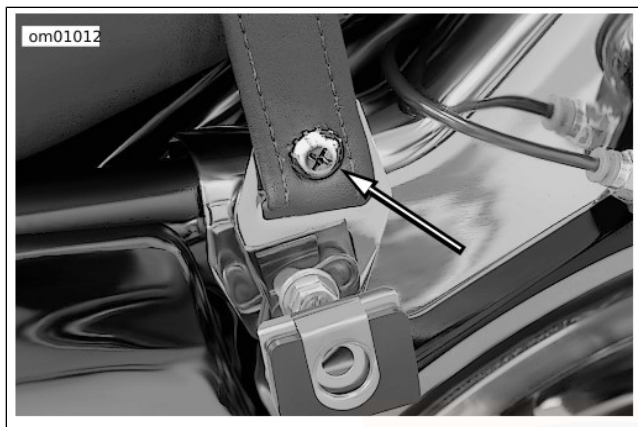

Figure 78. Seat Strap Bracket Screw (FLHT/C/U)
1. See Figure 78. Open left saddlebag cover and remove fastener from seat strap bracket.
5. See Figure 78. Install end of seat strap in slot of seat strap bracket. Install seat strap bracket fastener. Tighten to 5.4–8.1 N·m (48–72 **in-lbs**).
2. See Figure 78. Open left saddlebag cover and remove seat strap bracket fastener.
7. See Figure 78. Install end of seat strap in slot of seat strap bracket. Install seat strap bracket fastener. Tighten to 5.4–8.1 N·m (48–72 in-lbs).